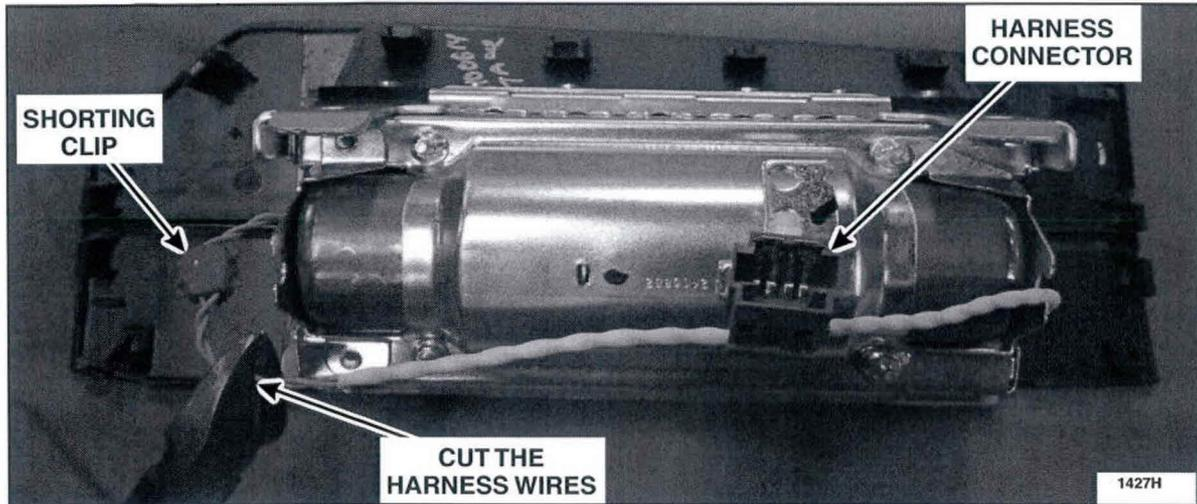

FIGURE 7
7. Cut the harness wires between the shorting clip and the harness connector. See Figure 7.